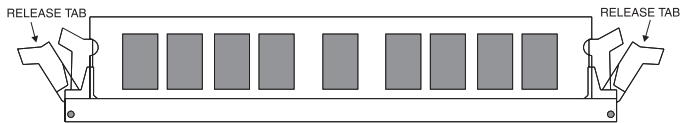

Figure 3-1: Installing a 168-Pin DIMM
1. Hold the DIMM so that the notched edge is aligned with the notch on the DIMM socket (Figure 3-1).
1. Hold the SIMM so that the notched edge is aligned with the notch on the SIMM socket (Figure 3-1).